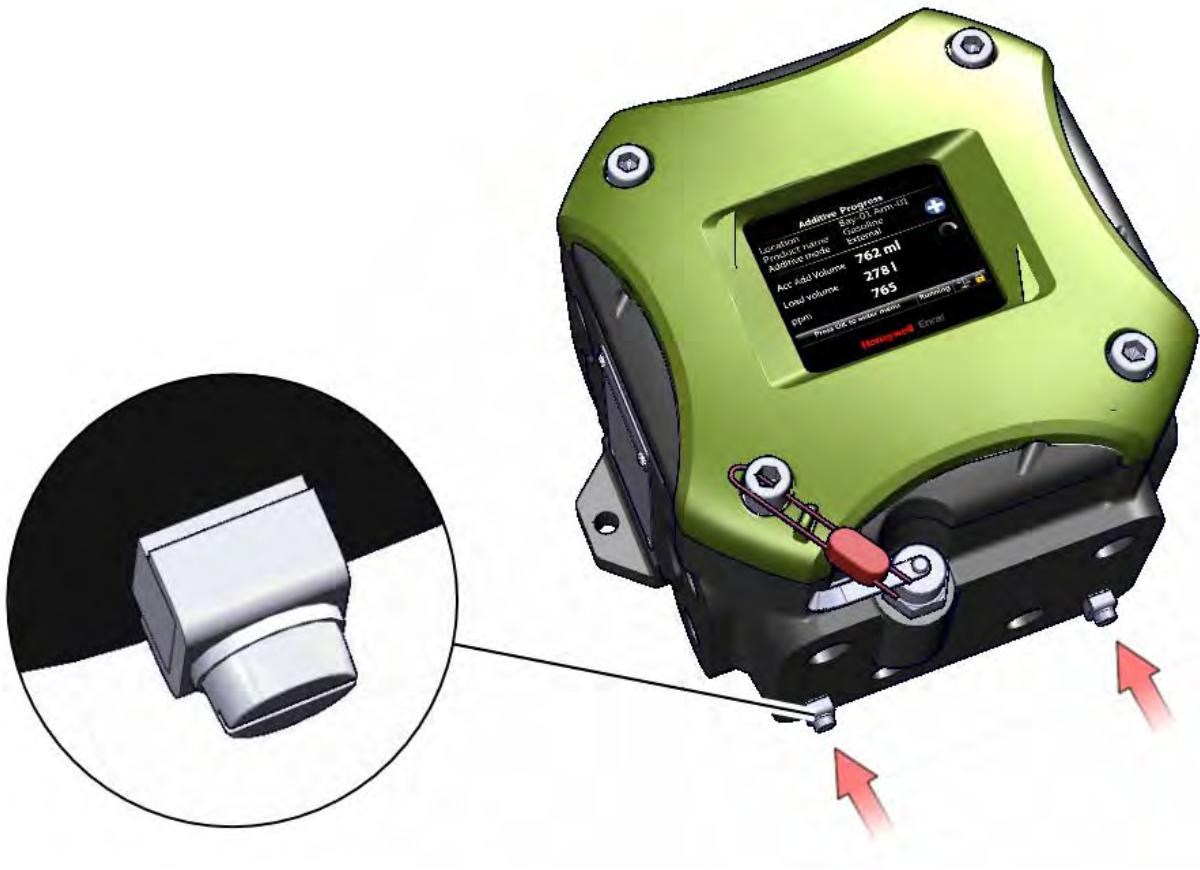

FIGURE 2-1
**WARNING!** Ensure the housing of the device is properly connected to the ground reference. See FIGURE 2-1. Ensure the electrical resistance of the ground connections is below the maximum prescribed by local requirements.